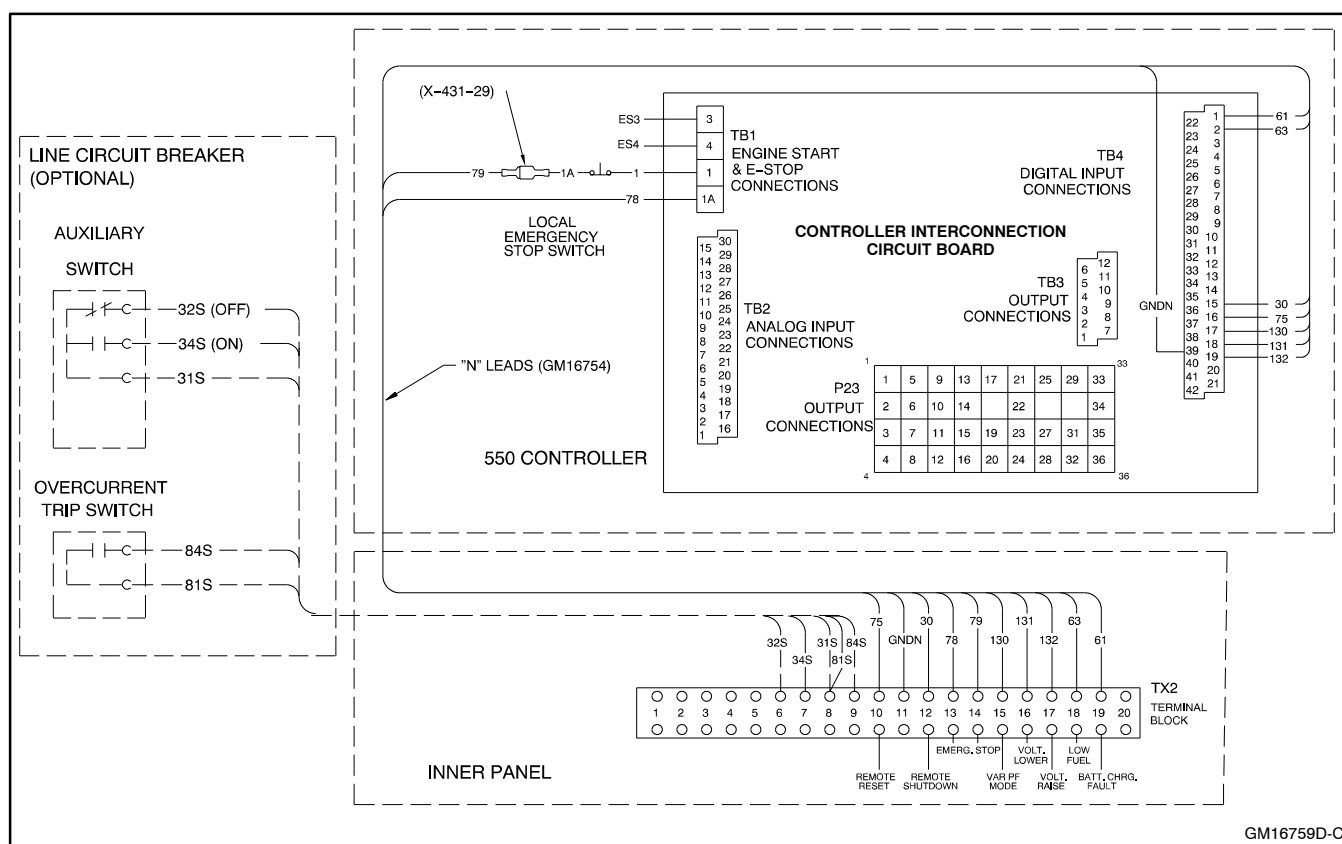

Figure 4 Attaching Wiring Connection Harness to TX2 Terminal Block
3.1.1 Disconnect lead 1A from TB1-1A. Cut the existing terminal from lead 1A and attach the 1/4 in. push-on terminal (X-431-29) to lead 1A. See Figure 4.